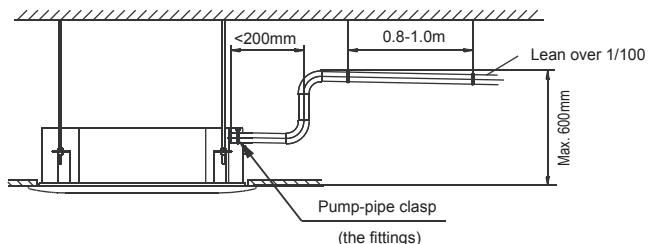

Fig.6-2
- 7) In case the drainpipe outlet is higher than pumping connective pipe of the main body, the drainpipe must be arranged upwards vertically by using connective assembly of the water outlet for vertical bending, and the height of the drainpipe shall set to the defrosting pan surface no more than 1000mm (four-way cassette) or 600mm (slim four-way cassette), otherwise, too much backflow while shutdown would leads to overflow (Refer to Fig.6-2).